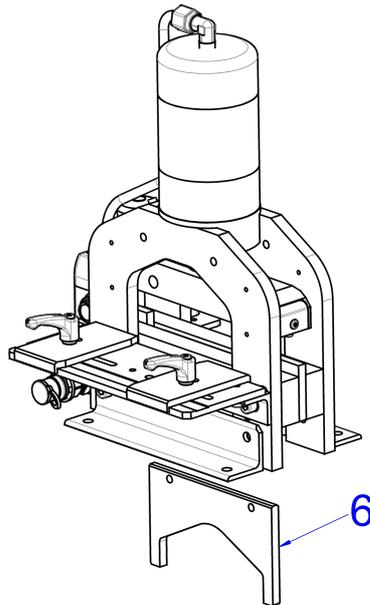

Fig. 13: Removing the blade
- Finally, remove the blade at the bottom of the cutting unit (fig. 13, 6). Take care, the blade is sharp.